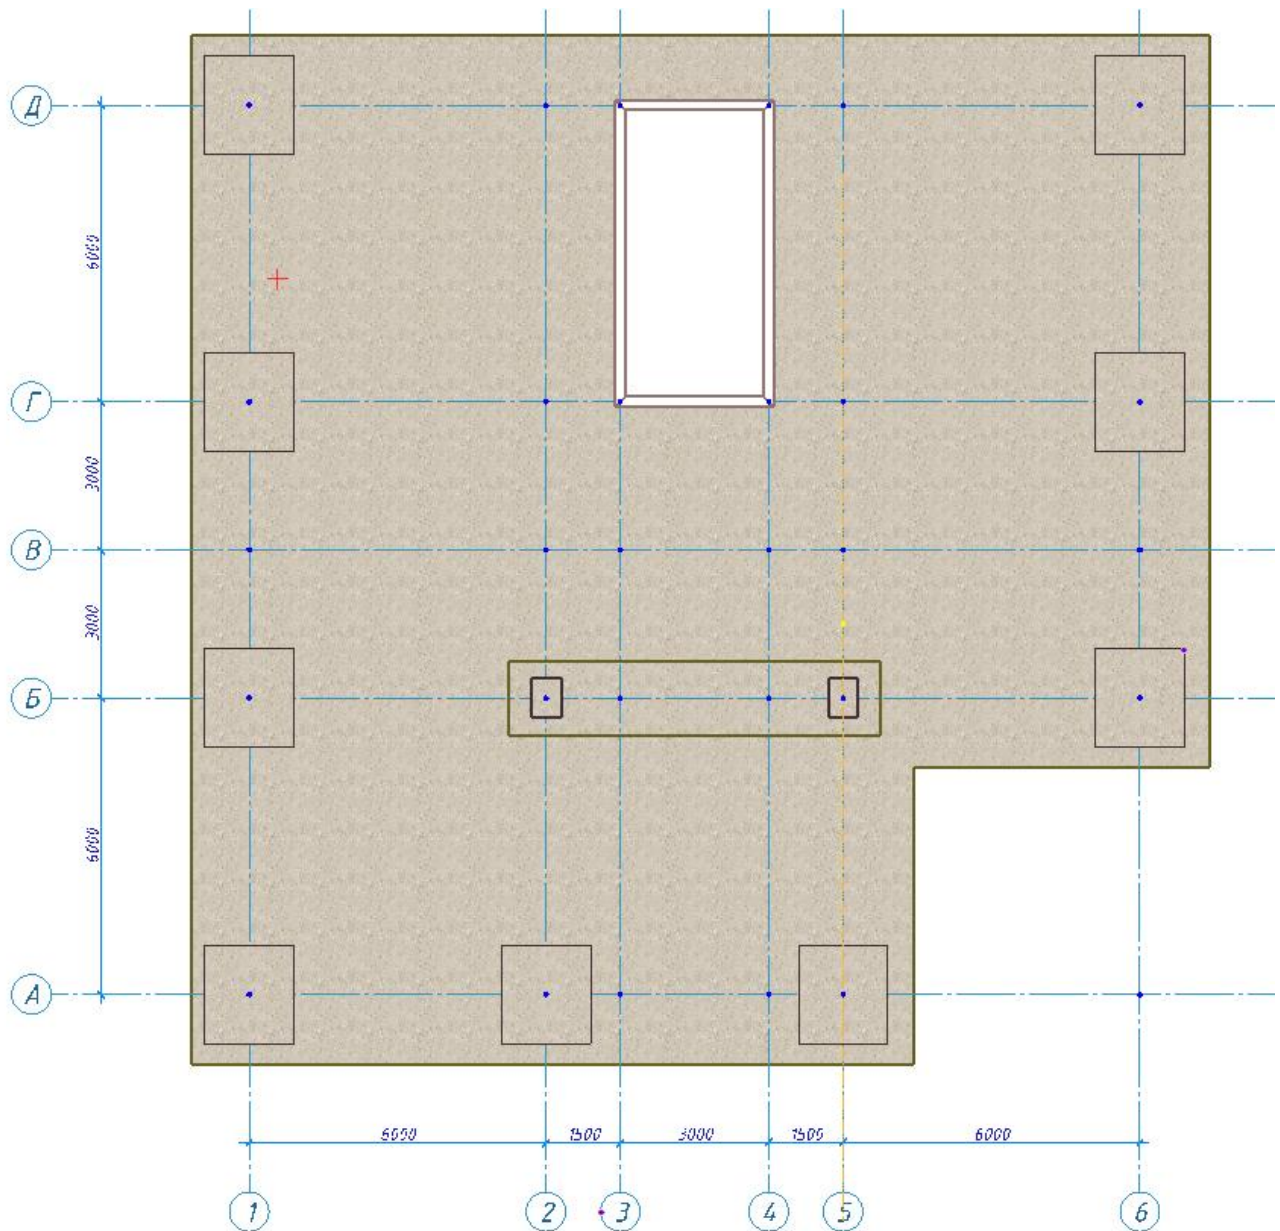

Figure 23.12. Location of the drop panel in the floor slab on the top view
- the second point – (X=12750, Y=6750) (see Fig. 23.12)